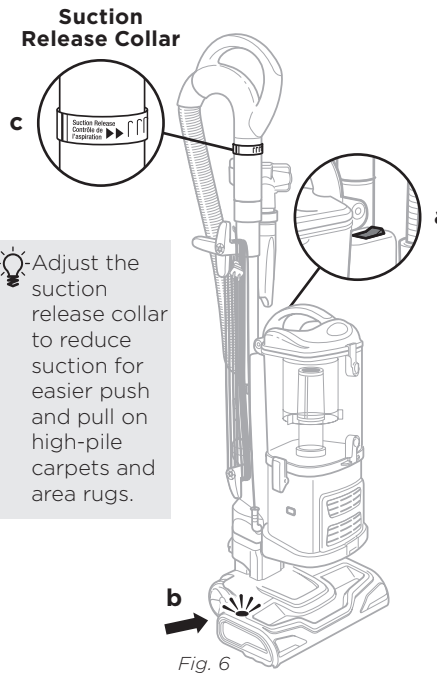

Fig. 6
- 3 Press the On/Off switch **(a)** to setting I to vacuum bare floors or to setting II to engage the brushroll for vacuuming carpets and rugs. **(Fig. 6)**
IMPORTANT: The brushroll indicator light **(b)** will illuminate green when brushroll is spinning, or red if there is a blockage or jam. **(Fig. 6)** See Checking for Blockages section for instructions.
- 5 Increase or decrease suction by adjusting the suction release collar **(c)** on the handle. **(Fig. 6)** If the vacuum seems difficult to push or pull, or if it is lifting up area rugs, reduce suction by rotating the collar counterclockwise. Rotate the collar clockwise to increase suction and for vacuuming floors.